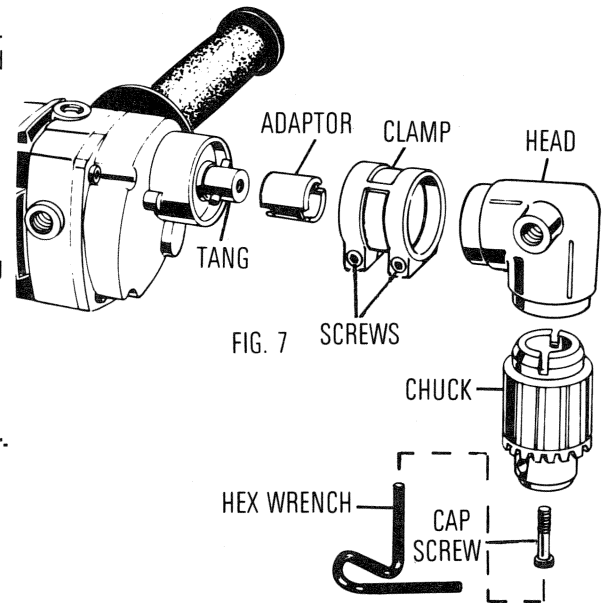

FIG. 7
1. To remove chuck open chuck jaws all the way, to gain access to the cap screw inside chuck (Figure 7).